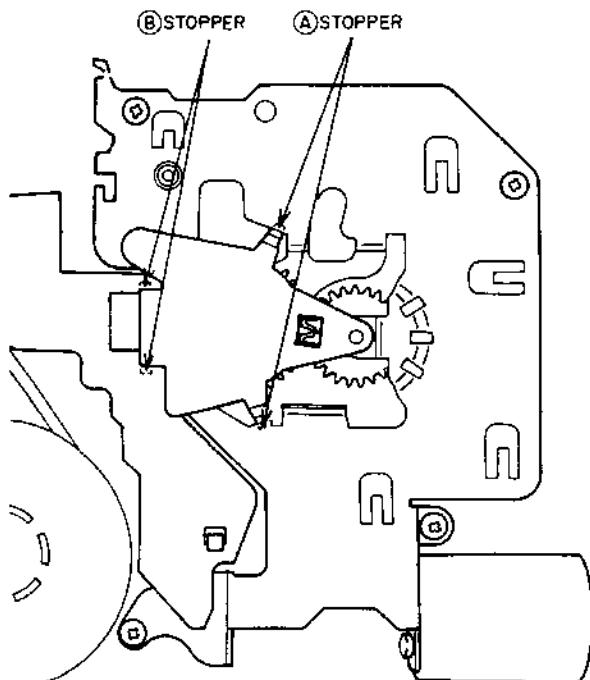

Fig. 4-5
1) Release the two Ⓐ stoppers as shown in Fig.4-5.